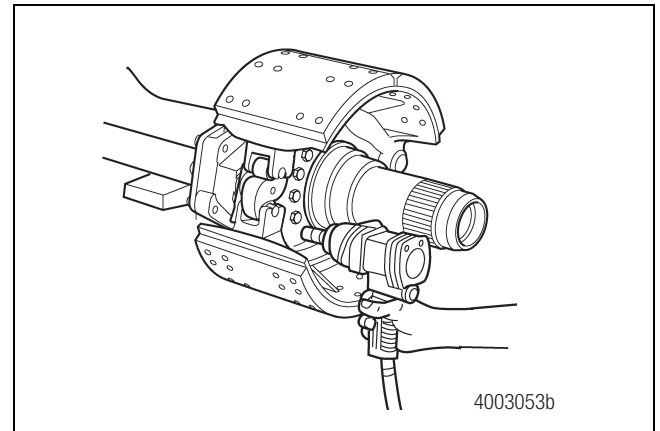

Figure 3.7
8. Use a socket and wrench to remove the brake spider/spindle-to-housing bolts. Figure 3.7.